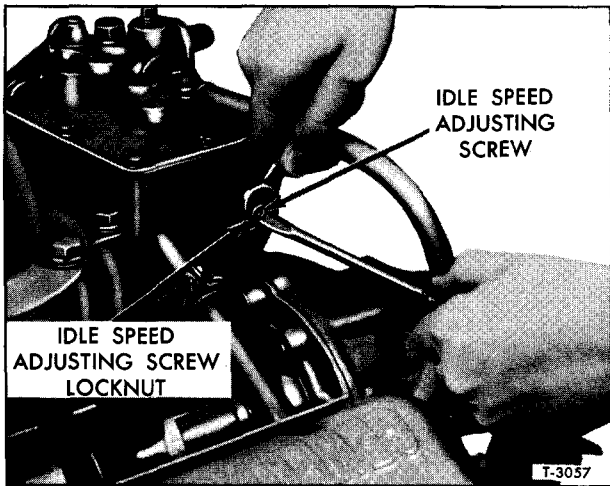

Figure 10—Adjusting Engine Idle
2. If necessary to adjust idle speed, loosen lock nut and turn idle adjusting screw IN to increase or OUT to decrease (fig. 10). Lock adjusting screw with lock nut when idle speed is approximately 15 rpm below desired setting. The recommended idle speed is 500 rpm.